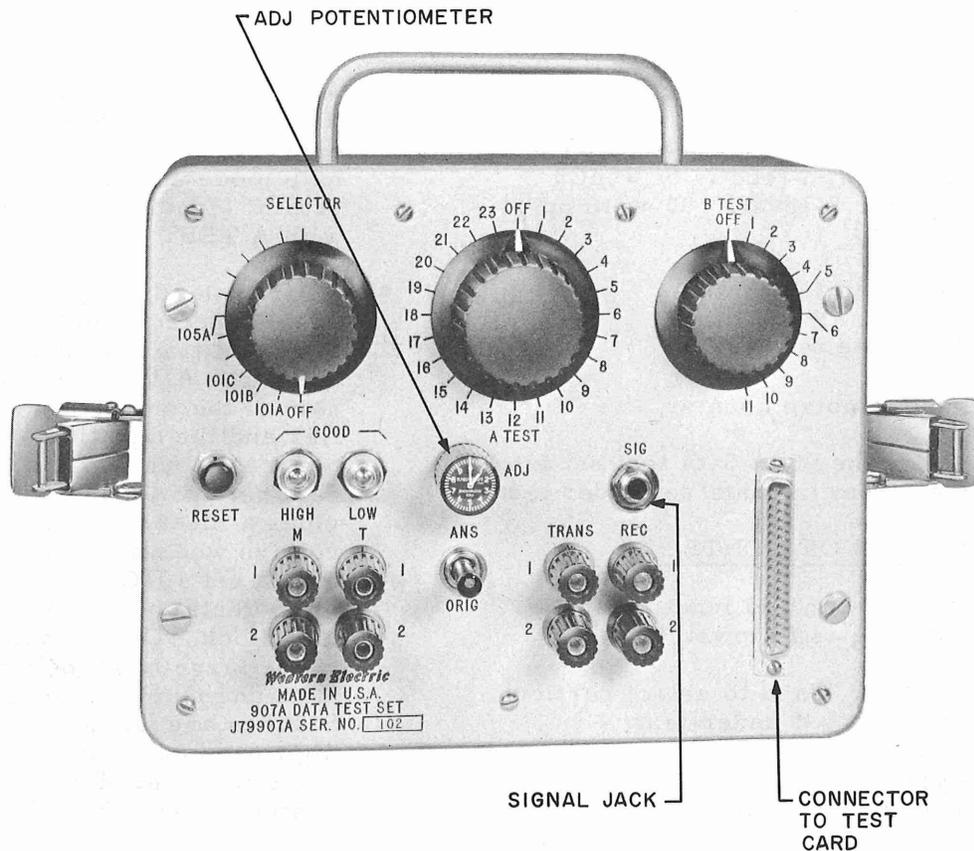

Fig. 1 - 907A Data Test Set
1.01 This section contains information on the identification and operation of the 907A data test set, Fig. 1. Listed below are the J, CD, and SD numbers for the data test set.
1.03 Fig. 1 shows the 907A data test set. Illustrations of its associated con-